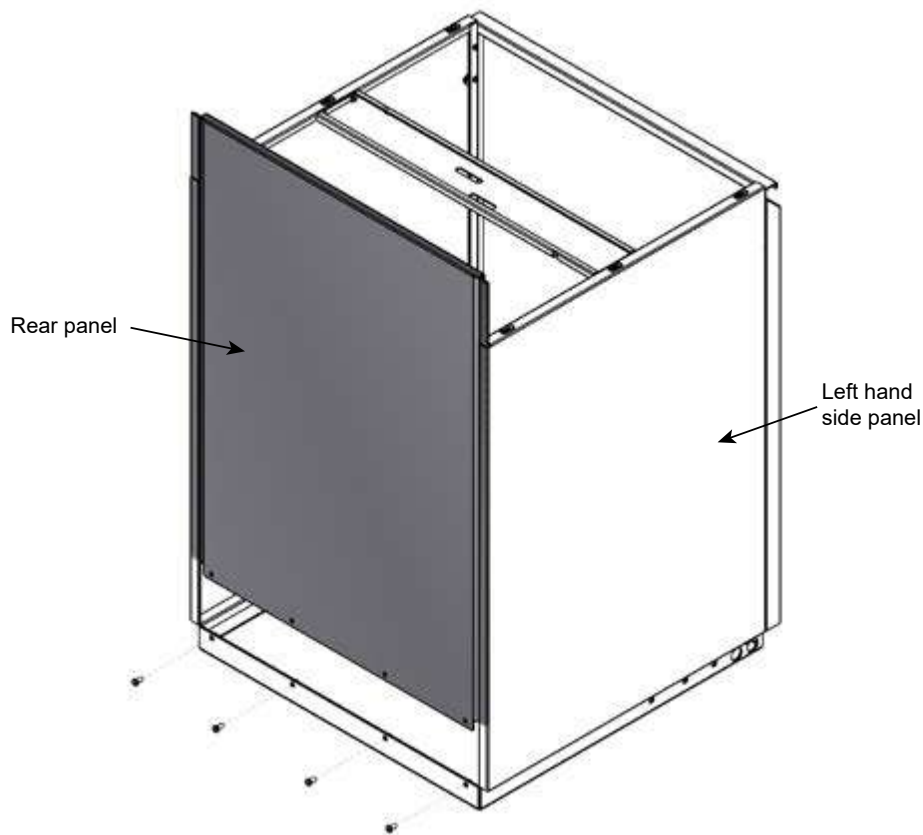

Figure 6-3: Gaining access to the condensate outlet
3. Grip the top of the rear panel and pull it upwards. Slide it all the way up and out of the channels on the rear edge of the two casing side panels to remove it from the boiler. Refer to Figure 6-3.